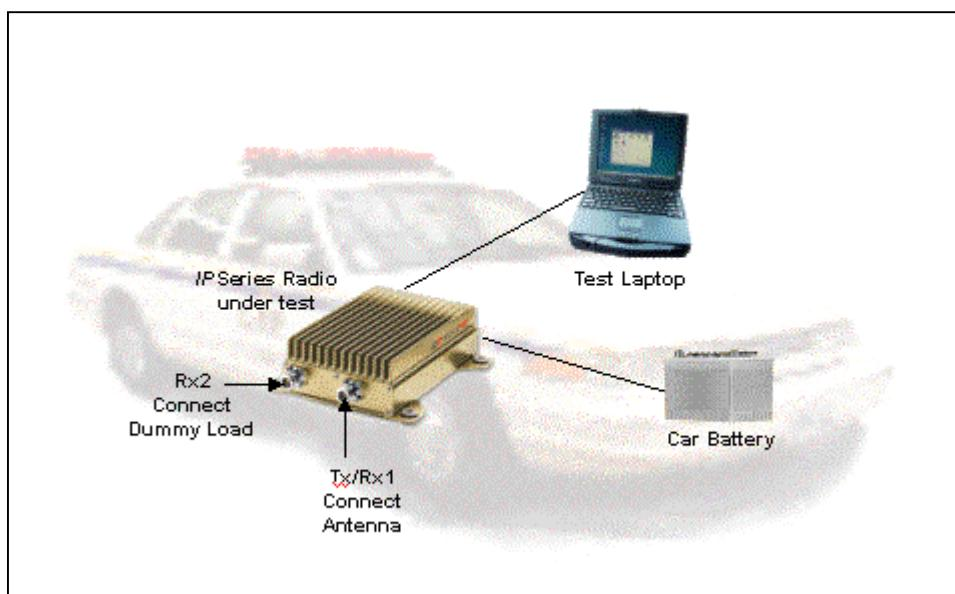

Figure 21: Mobile Radio Connection for Testing
Step 2 Connect the mobile radio as shown below in Figure 21.